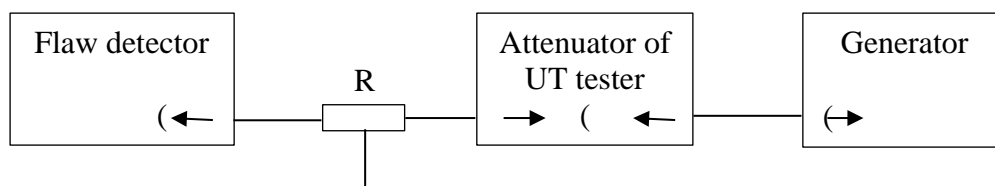

Figure 3.2 – Connection diagram of flaw detector for determination of the modal accuracy when measuring echo-signal amplitudes from defects
1. Make a connection diagram shown in Figure 3.2, where  $R = 51$  Ohm (C2-10-0,25-51 Ohm  $\pm 0,5\%$ ).
1. Make a connection diagram shown in Figure 3.2 (p. 3.3.6).